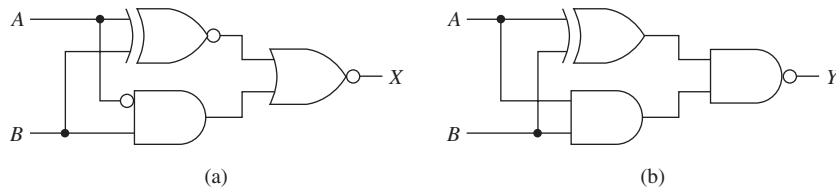

Figure P6-7
- 6-7.** Write the Boolean equations for the circuits of Figure P6-7. Reduce the equations to their simplest form.